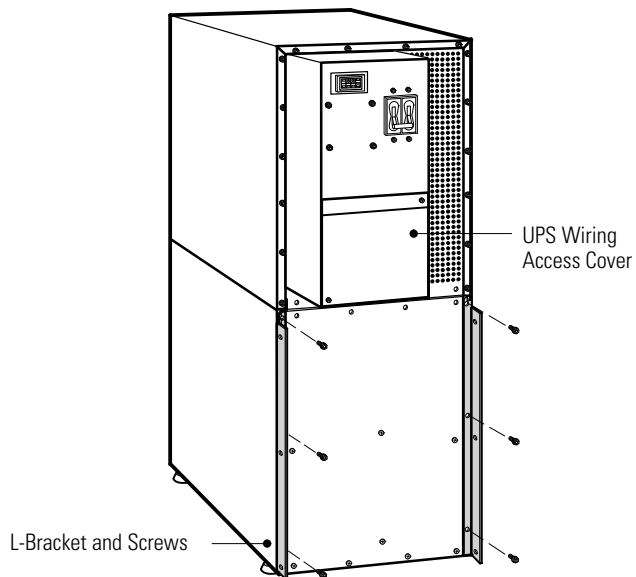

Figure 15. Attaching the L-Brackets
3. Attach the supplied L-bracket to the lower rear (for 2-high) or middle rear (for 3-high) cabinet using three screws (see Figure 15).